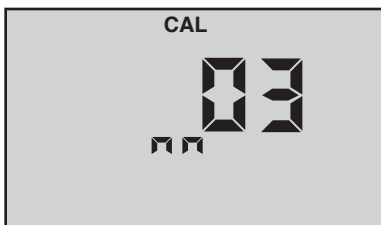

Figure 14
7. Press $\frac{\text{CAL}}{\text{MCLR}}$ to accept the change (new month), (see Figure 14).